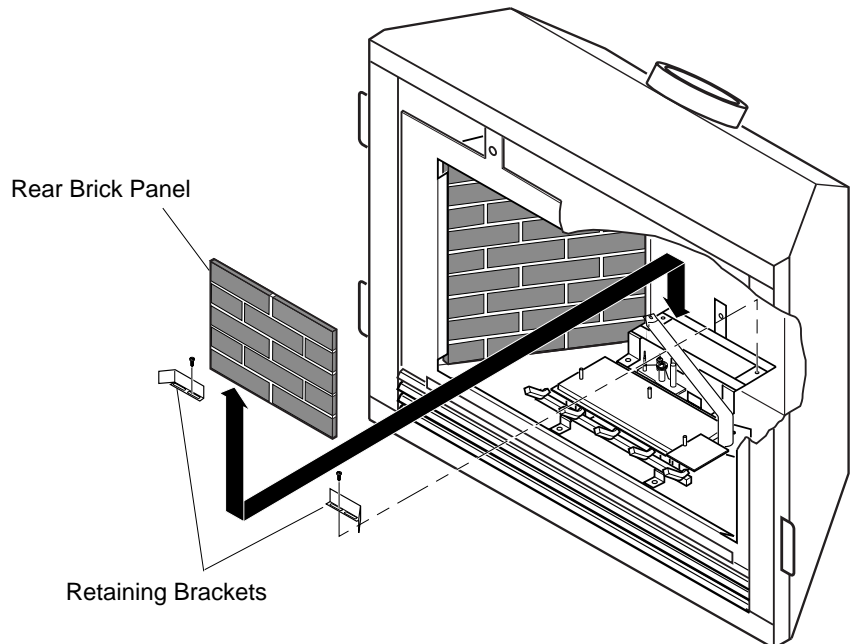

Figure 45- Installing Rear Brick Panel and Retainer Brackets
7. Install rear brick panel. Rest bottom edge of panel on back edge of grate (see Figure 45).